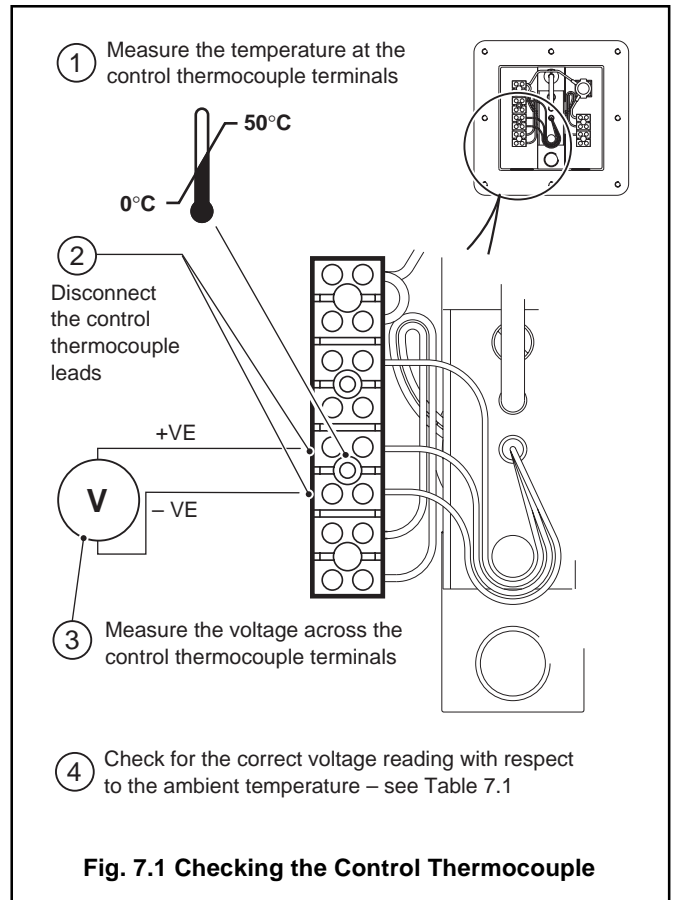

Fig. 7.1 Checking the Control Thermocouple
7.1.1 Checking the Control Thermocouple – Fig. 7.1
b) Check the control thermocouple voltage as shown in Fig. 7.1. The measured voltage must be within $\pm 0.1\text{mV}$ of the voltages listed in Table 7.1.